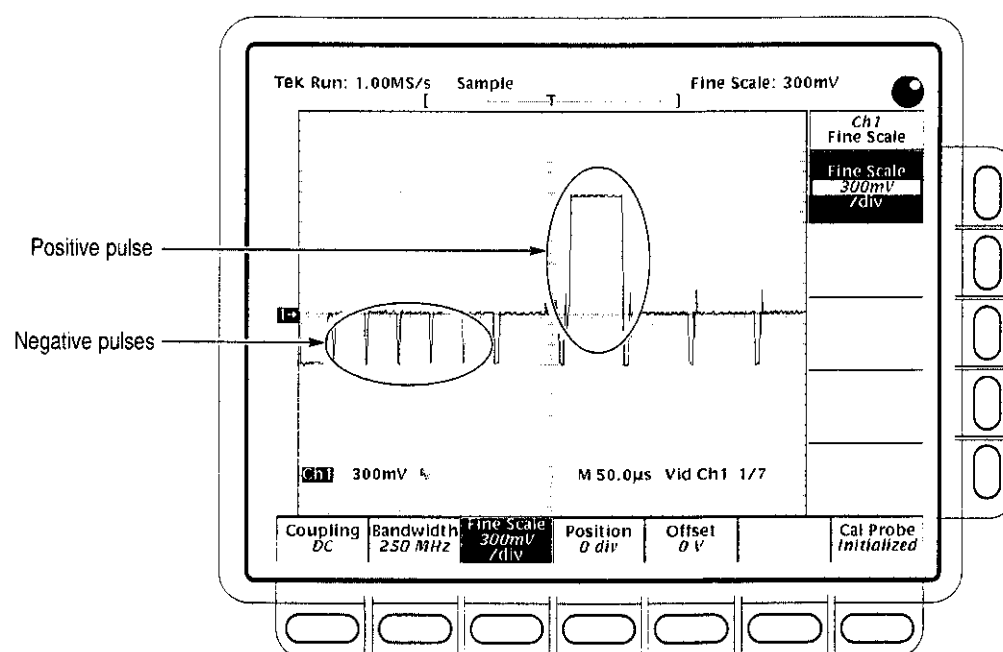

Figure 1-28: Triggered Signal Range Test – 300 mV
- m. **CONFIRM** that the **TRIG'D LED** stays lit and that the waveform on screen is stable, i.e.; does not move horizontally or vertically. Also, **CONFIRM** that the waveform on the screen has one positive pulse and a number of negative pulses. See Figure 1-28.